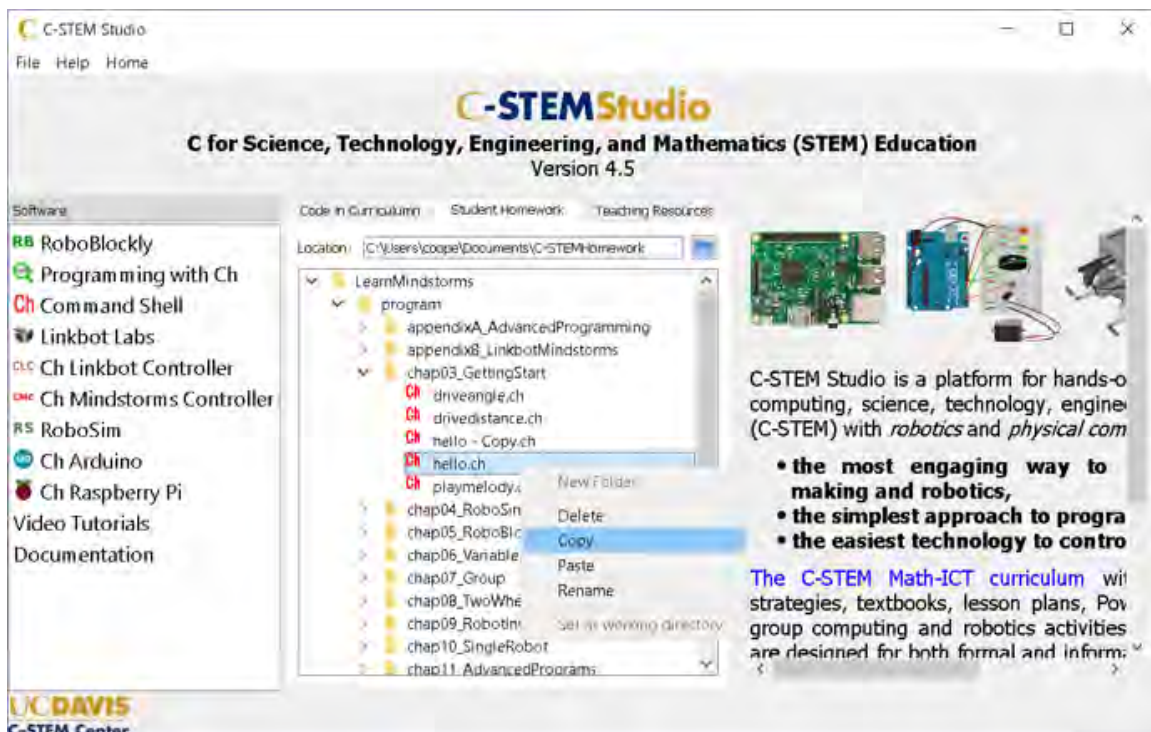

Figure 3.5: Copy the program `hello.ch`, paste, and rename to create a new program `hello2.ch`.
1. Right click the file `hello.ch` to bring up the menu as shown in Figure 3.5, and select “Copy” on the menu to copy the file into the buffer.
3. Right click to bring up the menu as shown in Figure 3.5, and select “Paste” on the menu to copy the file from the buffer.
4. If the file with the same name already exists, a file with a new name, appended with “- Copy”, will be created. For example, a copied file with the name “hello - Copy.ch” is created, as shown in Figure 3.5.